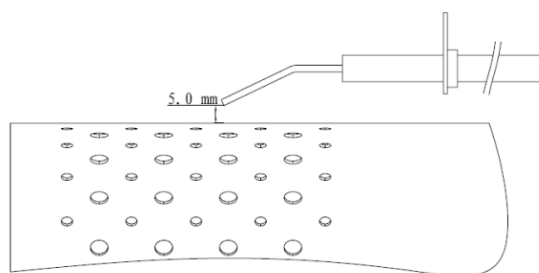

Figure 5
4.5.2. Check the starting electrode position (see Figure.5).